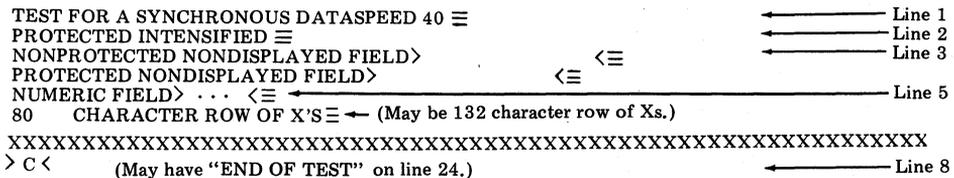

Fig. 7—SYNC 40 Test Message
2.19 Check for correctness of display and station options (Fig. 7):
Line 1 is copied as shown (Fig. 7). Line 2, the word PROTECTED begins in the fifth character position and is followed by the word INTENSIFIED. INTENSIFIED is brighter than normal for Option 403a (OPT 5@ displayed) or Option 403c (OPT 5B displayed). INTENSIFIED blinks for Option 403b (OPT 5A displayed) or Option 403d (OPT 5D displayed). Lines 3 through 8 are as shown below; the cursor must be positioned over "C" on line 8.